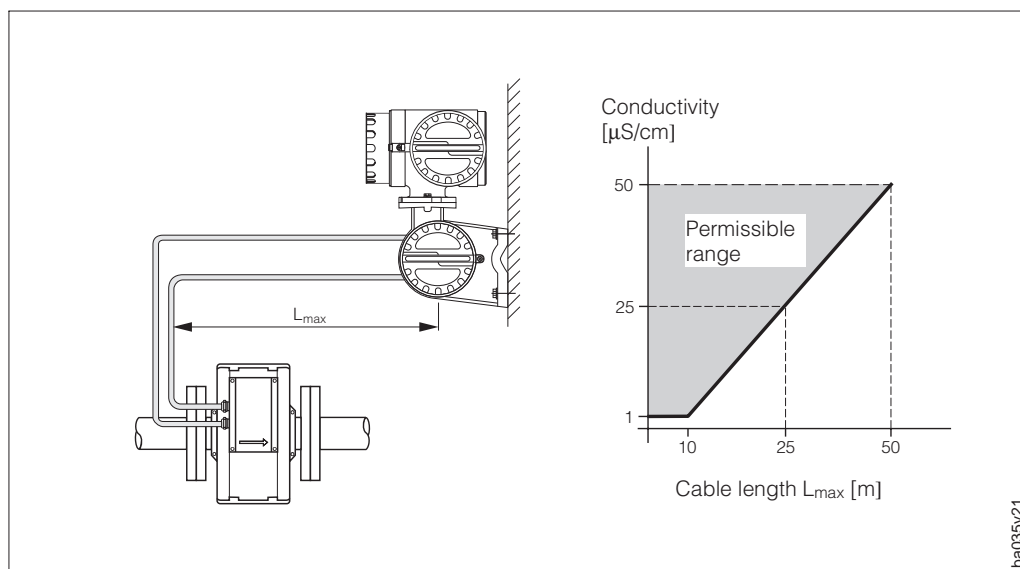

Fig. 19
- The permissible length L_{\max} of cable between the sensor and the transmitter at a distance of >10 m is governed by the fluid conductivity (Fig. 19).